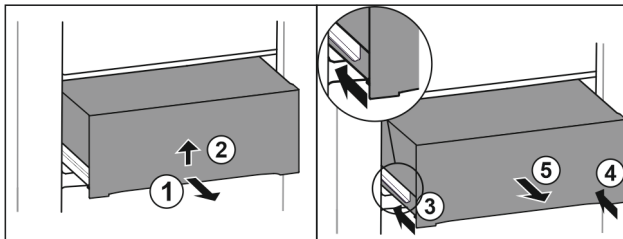

Fig. 56
- ▶ Pull out drawer half-way. Fig. 56 (1)
- ▶ Lift the drawer from the bottom. Fig. 56 (2)
- ▶ Insert left rail. Fig. 56 (3)
- ▶ Insert right rail. Fig. 56 (4)
- ▶ Remove drawer to the front. Fig. 56 (5)